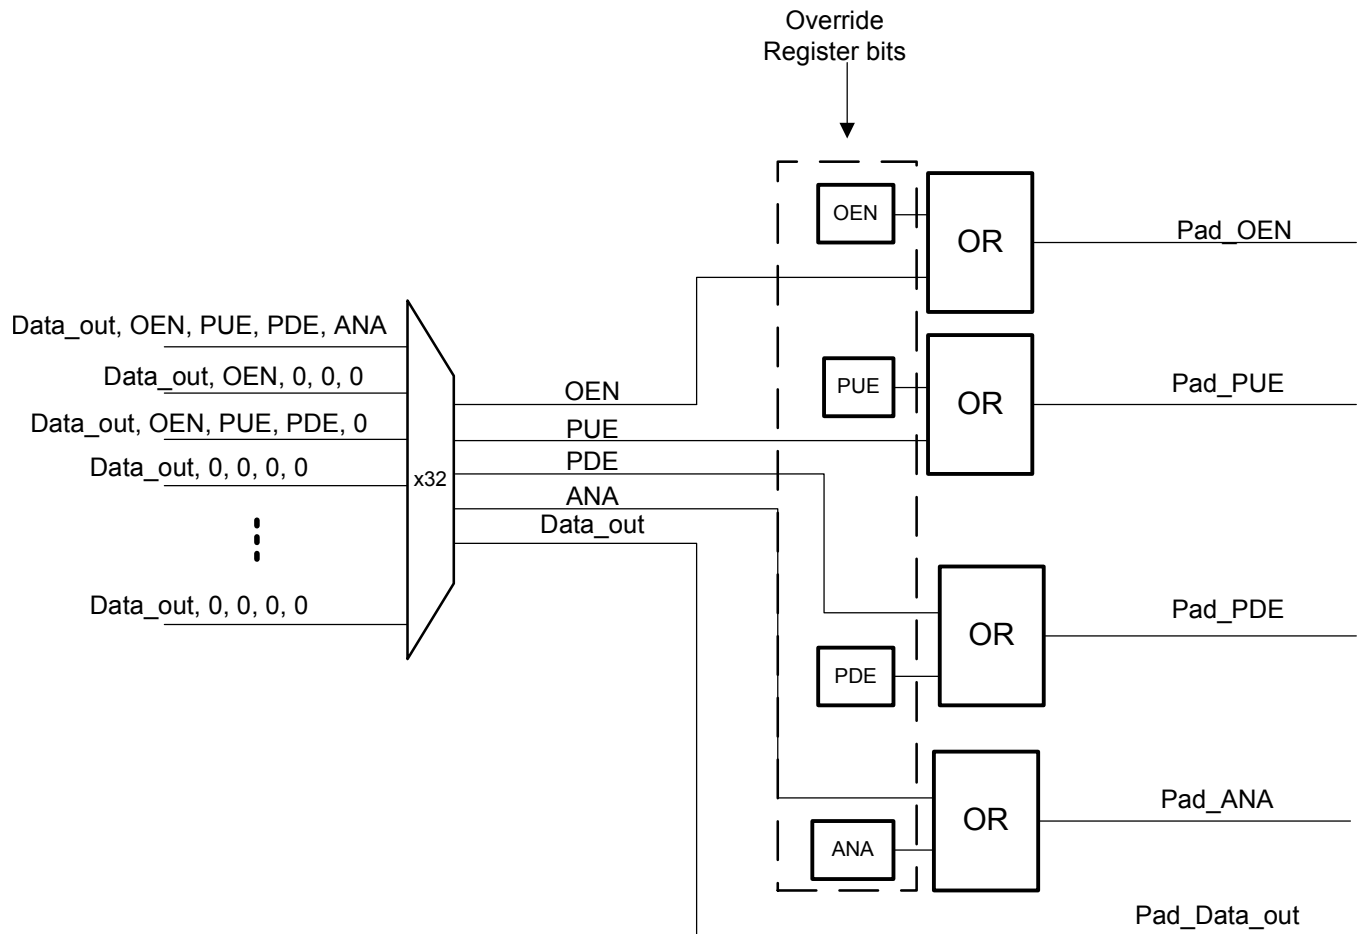

Figure 9-4. PAD Configuration Override Registers
The pad control registers let software configure the GPIO pads based on the application requirements. There is a override configuration register (**IOC_Pxx_OVER**) for each pad that can be used to drive pullup and pulldown enables for each pad and to enable the pads to drive outputs. These registers are used to set the corresponding bits for each pad when output enable (OE), pullup enable (PUE), pulldown enable (PDE), or analog (ANA) is not driven from hardware (that is, the peripheral). If the bits are set on a pad that is configured for a peripheral that does drive OE, PUE, PDE or ANA, the register is used as an override for that signal if it is set active. Figure 9-4 shows the override logic. The inputs on the left side show the various possibilities for inputs from peripherals. Any peripheral I/O can be mapped to any pad so the appropriate pad override register must be configured properly. The **IOC_Pxx_OVER** registers can also be used to control the OE, PUE, PDE, and ANA settings when the pad is configured as software-controlled GPIO.